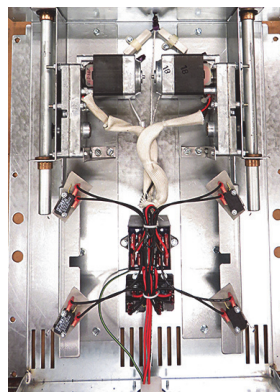

Figure 1
3. Remove the basket lift cover to expose the inside of the basket lift (see Figure 1).